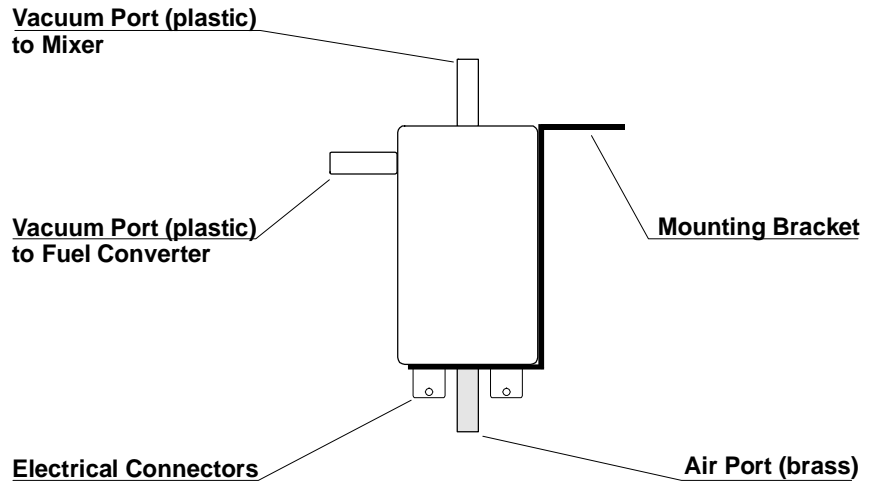

Figure 2. Solenoid Valve Ports
If the engine is to be operated in dusty environment, install the foam filter on the air port of the solenoid valve (it is the brass port of the solenoid located in the proximity to the electrical connections, as shown in Figure 2). Making sure that the port opening is not blocked, place a drop of adhesive on the brass port and place the foam filter over the port.
This step involves (1) the installation of the vacuum elbow into the fuel converter/regulator, (2) connecting the elbow with the solenoid valve, (3) installing the vacuum fitting in the mixer and (4) connecting the solenoid valve with the mixer vacuum. Solenoid valve ports are referenced in Figure 2 (on page 10).
(1) Locate the atmospheric vent on the converter, it will either be on the cover (IMPCO, Nolf's) or at the base of the converter (Aisan).
(2) Cut sufficient length of the flexible vacuum hose and connect the vacuum elbow with the plastic vacuum port on the side of the solenoid valve (see Figure 2 on page 10).
(3) Identify a vacuum port in the mixer and install the vacuum fitting.
Cut sufficient length of the flexible vacuum hose and connect the vacuum fitting in the mixer with the remaining plastic vacuum port of the solenoid valve (see Figure 2).